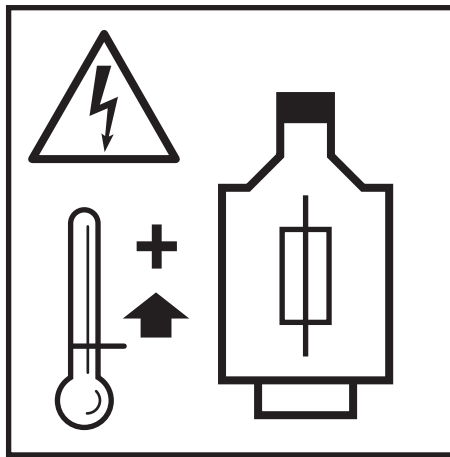

Fig.: 14
3. Allow for a motor overload protection in the switchbox (fig. 14)